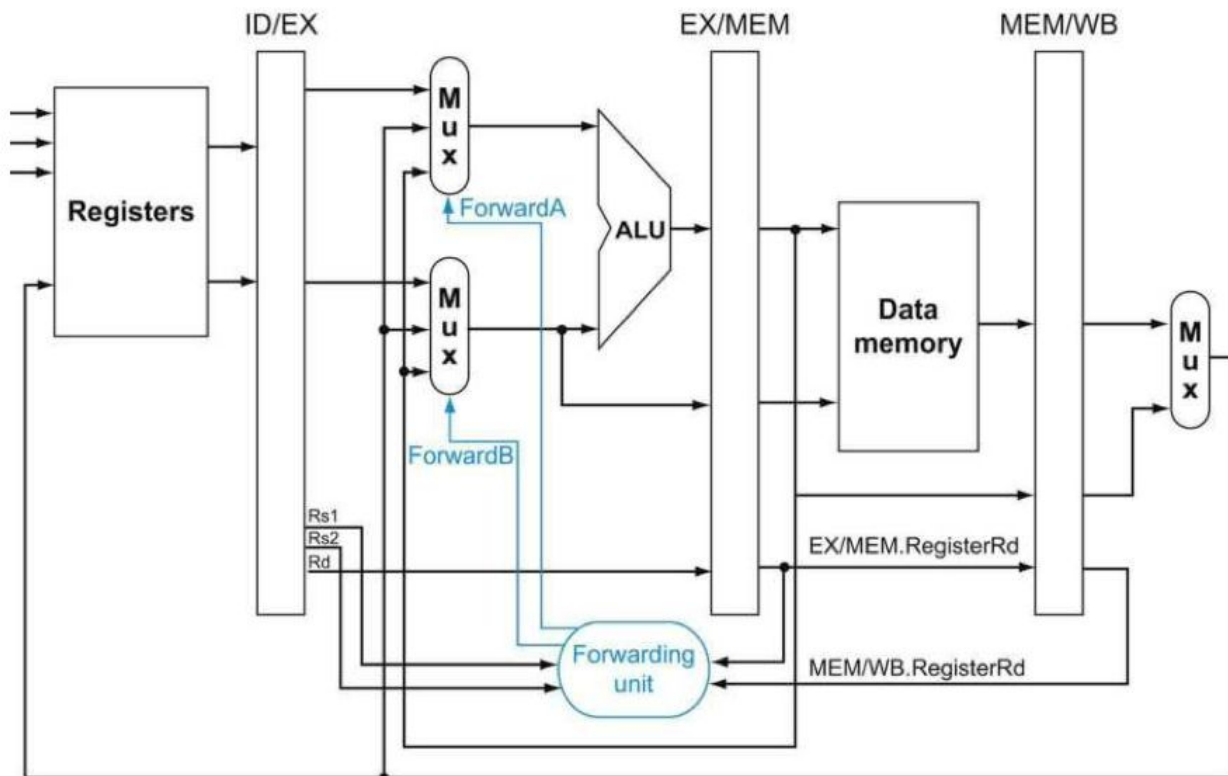

Figure 2: 5-stage pipeline with forwarding
- 7) Consider the 5-stage pipeline design **with forwarding** shown in Figure 2. Insert the minimum number of required NOPs into the instruction stream **without re-ordering** instructions to avoid all hazards. Calculate the average CPI of this code, assuming a CPI of one for all instructions. **(4 Points)**